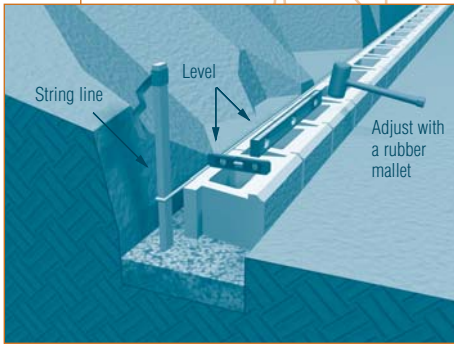

Figure 5: Install Base Course
- Check and adjust the level and alignment of all blocks. Check levels frequently, side-to-side and front-to-back. Verify the proper position of all blocks by examining a straight line across the back of the blocks or the back of the lips (Figure 5).